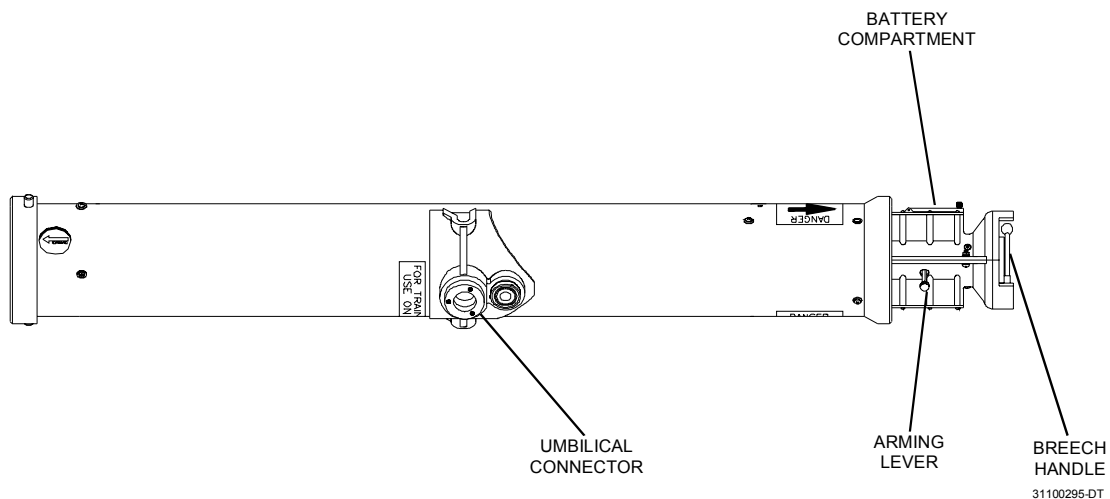

Figure 2-26. M2/M3 TOW Simulator Tube.
- a. Remove the TOW Simulator Tube (Figure 2-26) from the transit case and inspect for damage.